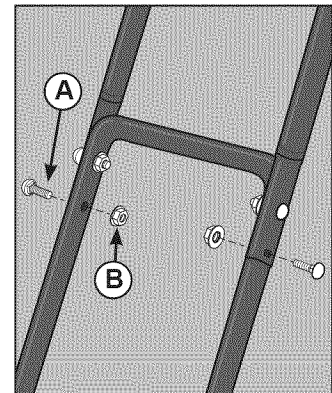

Figure 4B. Upper Handle Assembly
3. Slide large carriage bolts (A, Figure 4B) and 5/16" flange lock nuts (B) into lower holes. **DO NOT TIGHTEN AT THIS TIME.**
7. Tighten upper and lower nuts in handle with a 1/2" wrench or deep socket (Figure 4B).